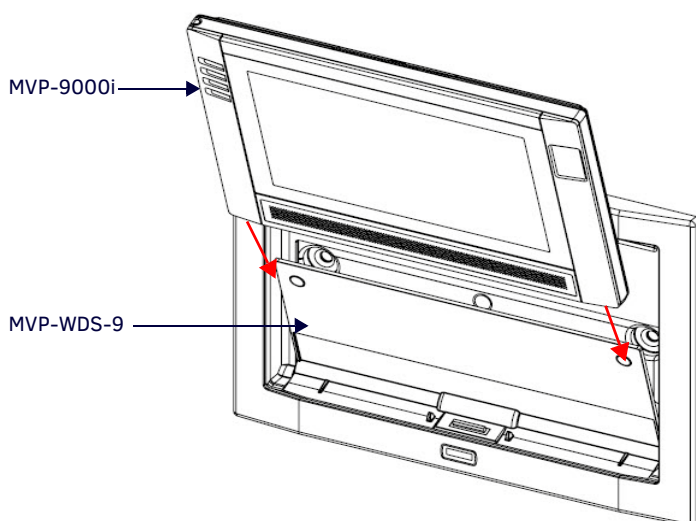

FIG. 11 Inserting the MVP-9000i into the MVP-WDS-9
1. Slide the device into the Wall Docking Station cradle bottom-first and make sure the device is fully seated in the Docking Station (FIG. 11).